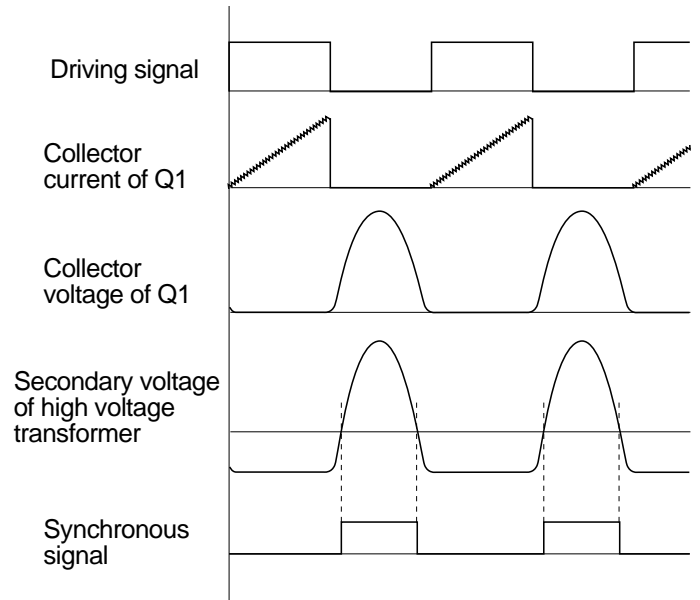

Figure A-2. Switching Wave-form
Wave-form of main parts are shown in Figure A-2. During off-time, flyback voltage appears on the primary winding of the high voltage transformer. The off-time depends on the inductance of the transformer and capacitance of the resonant capacitor C3. Synchronous circuit generates the timing signal by detecting the flyback voltage. The power transistor Q1 is periodically switched on when the collector voltage returns to zero (0) volt. High voltage (about 2 KV) appears on secondary winding of the transformer. The full-wave voltage doubler circuit increase to about 4 KV and is applied to the magnetron. The efficiency of the inverter unit itself is approx. 93%, and equal to that of current efficiency. Ferrite core is used for the high voltage transformer. It is superior to silicon steel core at high frequency, low magnetic loss. The power level is determined by the touch control board, and the PWM data corresponding to the level is set to the IC of the inverter unit through the control lines. The IC controls on-time of transistor Q1 by comparing the average value of the primary current with the magnitude of the power level data. The IC has the protection circuit which detects over-current of the main circuit and the high voltage circuit, over-voltage of the power transistor Q1 and AC power interruption. When abnormal phenomenon is detected, the IC pauses on the moment in order to protect the power transistor Q1 from